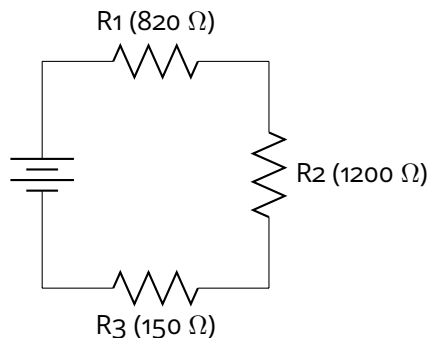

Figure 1: Series circuit with resistors 820  $\Omega$ , 1200  $\Omega$ , 150  $\Omega$
- E.g. For the circuit in figure 1,